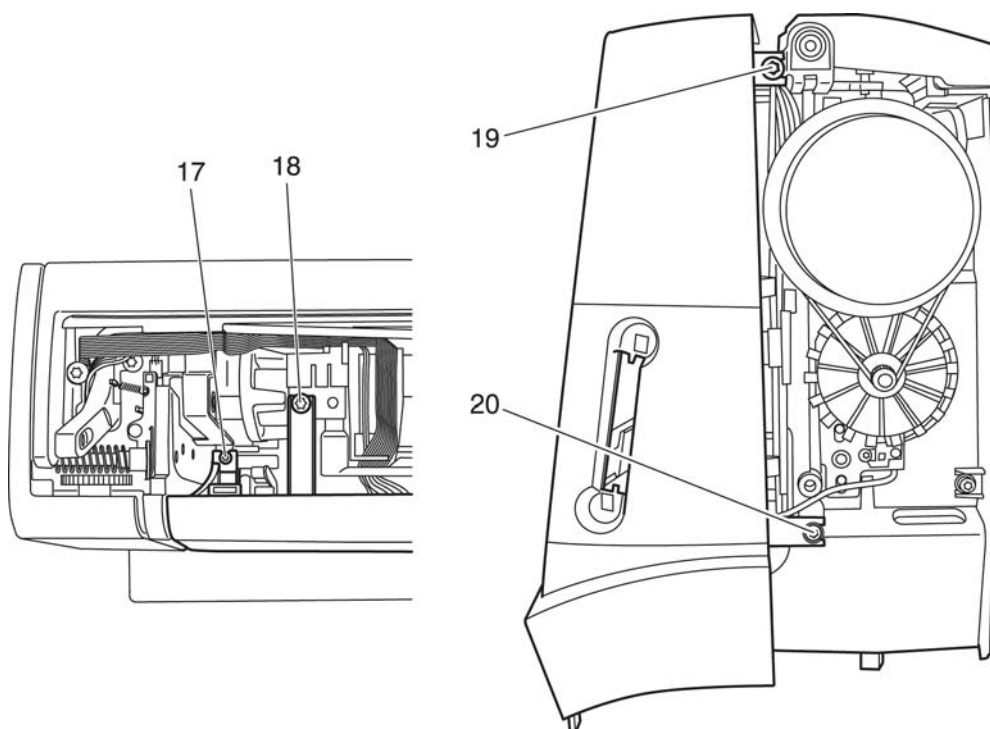

Fig. 8
- Loosen the four fastening screws 17 to 20 (fig. 8).